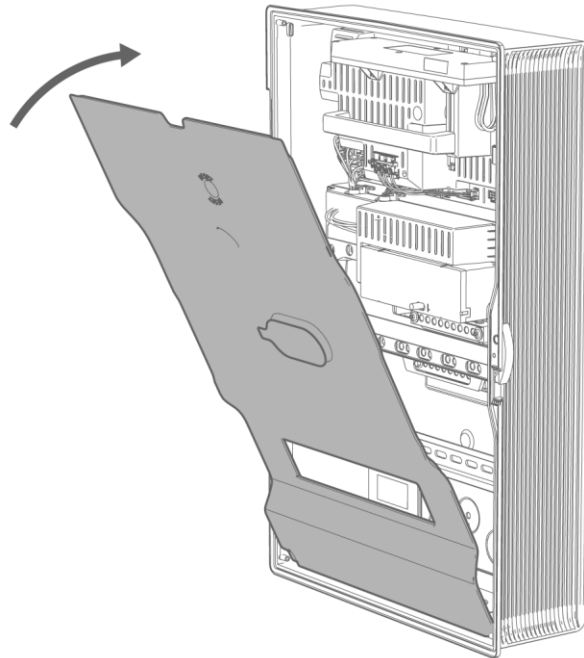

Figure 49: Install the Deadfront Cover
- Wi-Fi Password: Enter the Wi-Fi password as it appears on the Serial Number label (Fig 49). Launch a browser and enter the following IP address: **<https://192.168.91.1>**